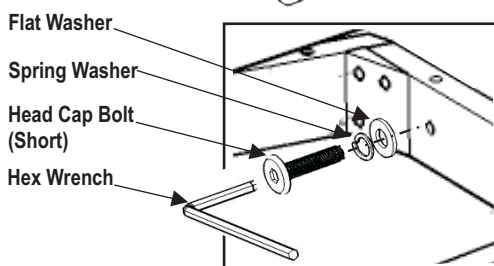
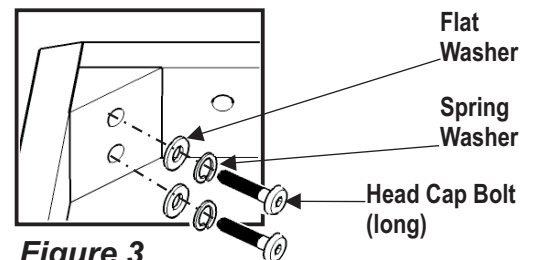

Figure 2
Figure 3
Attach Door (P) and (Q) to the side panels by sliding the door lift hinges into the side panel lift hinges. (see Figure 2)
(Figure 2)
(Figure 3)
Attach Top (B) to Top Unit (A) with Wood Screws. (see Figure 3)
Attach the Back Frame (D) to the unit with Flat Washers, Spring Washers, Head Cap Bolts (Short), Head Cap Bolts (long) and Wood Screws. (see Figure 2) and (see Figure 3)